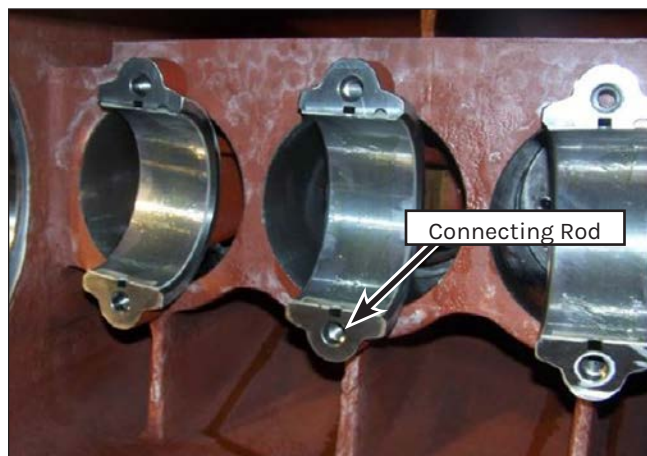

Figure 184: Connecting Rod Installation.
7. Place the three crosshead/connecting rod assemblies into place (Figure 184). Allow clearance for the crankshaft by pushing them towards the fluid end.